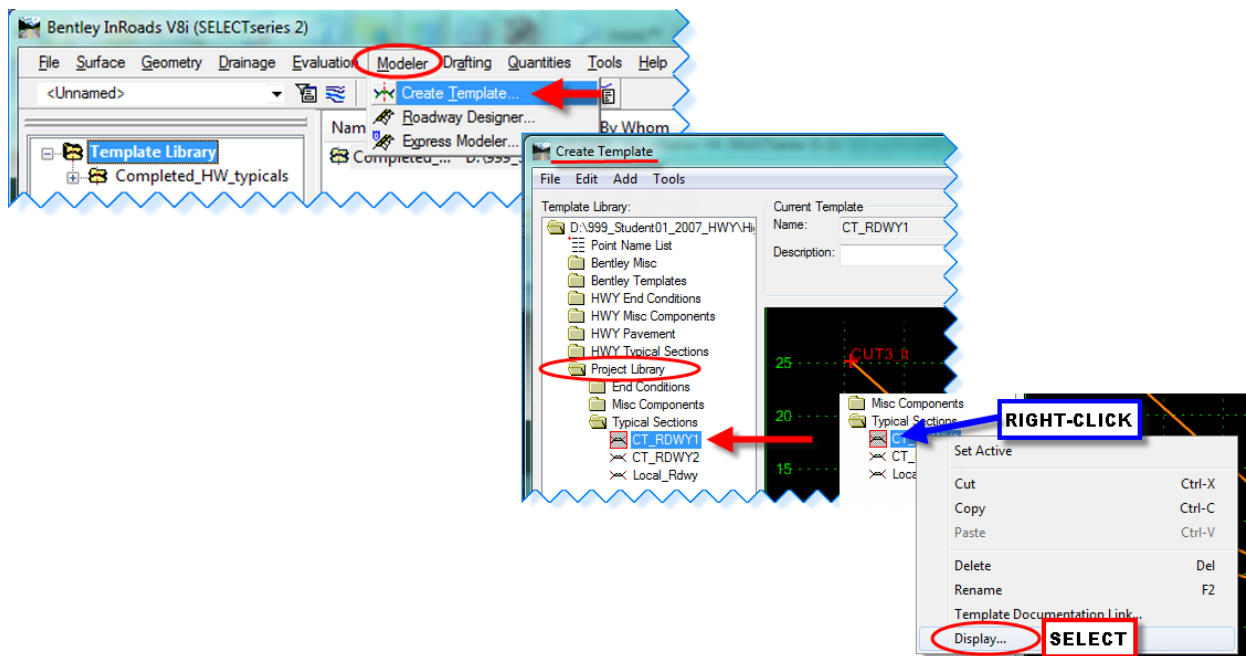

Figure 63 - *InRoads* Template Library
3. Click on **Display...**, see Figure 63. The Display Template dialog box opens.